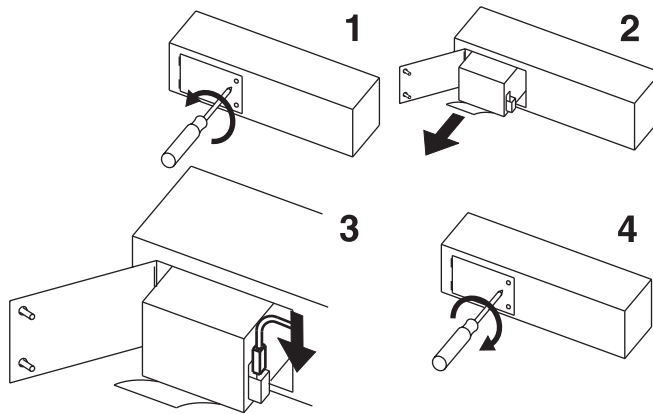

Figure 51. Removing the UPS battery
- a. See Figure 51, Picture 1. With the UPS on its side, remove the battery door.